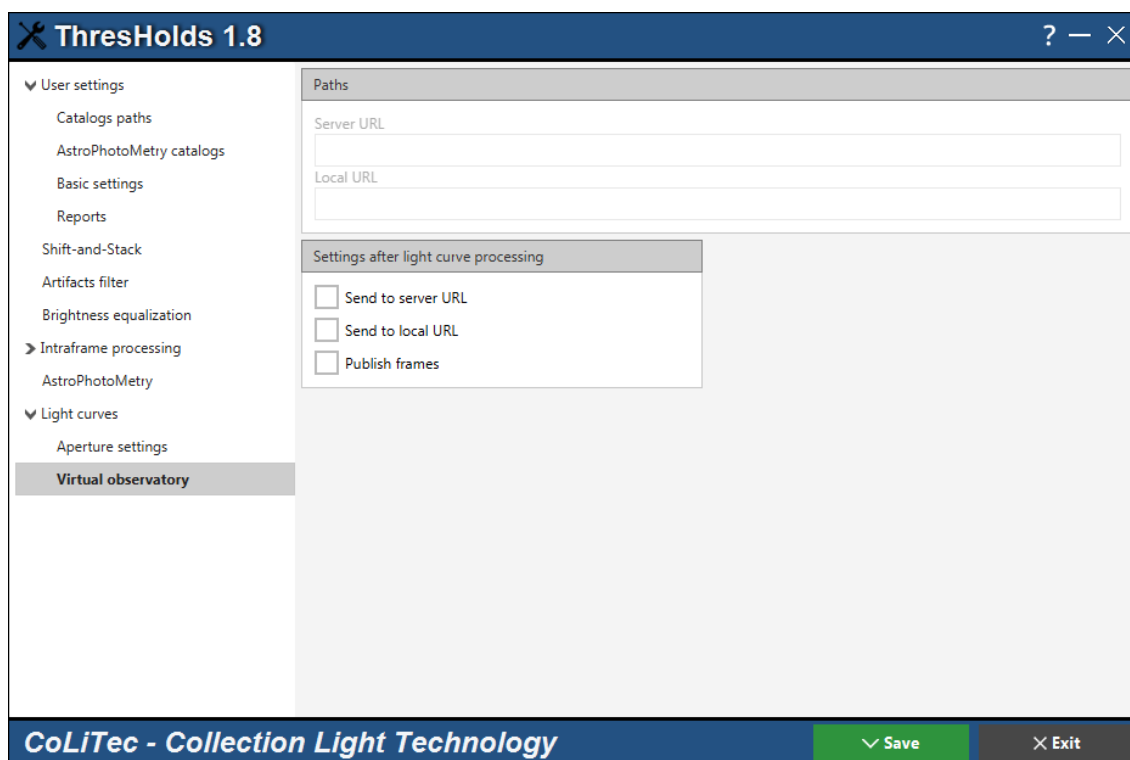

Figure 25. Settings editor, "Light curves – Virtual observatory" section
All settings related to the light curve sending are available in «**Light curves – Virtual observatory**» section of settings editor **ThresHolds** (Figure 25).
2. Set the following parameters for the light curve sending in «**Light curves – Virtual observatory**» section of settings editor **ThresHolds** (Figure 25):